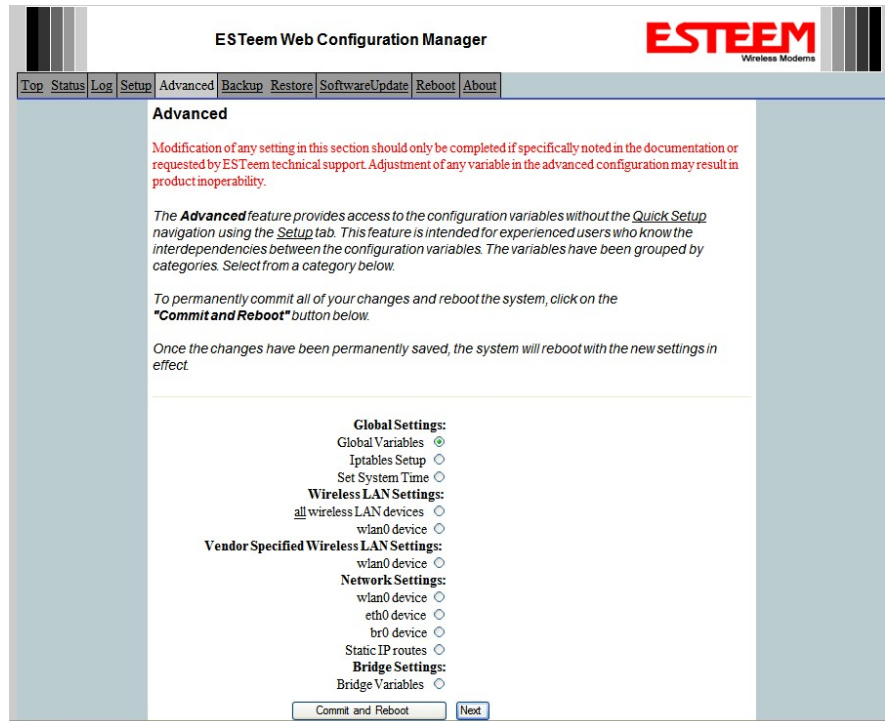

Figure 9: Advanced Features Screen
1. Select **Advanced** from the top Menu, then **Wireless LAN Settings>wlan0 device**. Press the Next button (Figure 9).